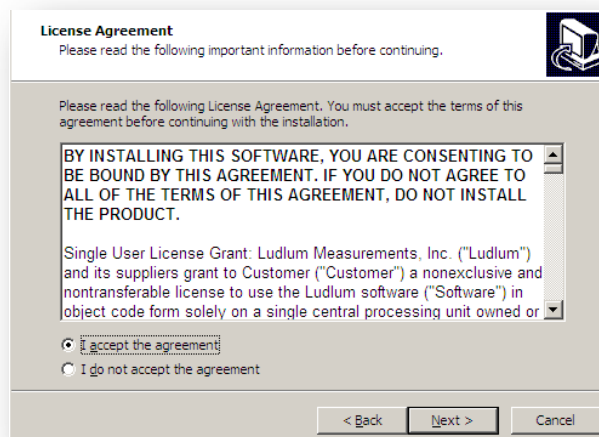

Figure 11 – Model 375 Web Page and Supervisor Service License Agreement screen
3. Click “Next” to accept the license agreement. See Figure 11.